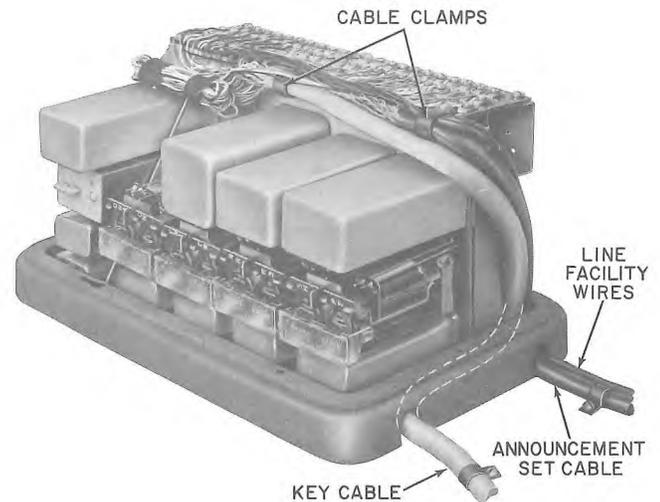

Fig. 1—Arrangement of Cable in 53A Control Unit
2.04 Inside wiring cables and wire should be formed as shown in Fig. 1.
- (2) Feed key cable into entrance hole of control unit and form along lower lip of mounting base (see Fig. 1).
- (3) Feed announcement set cable and line facility wires through entrance slot.
- (4) Now set control unit on the two fasteners previously placed.
- (5) Place other two fasteners. Make sure all four fasteners are tightened securely.
- (6) Form cables and wire to the terminal strip as shown in Fig. 1, placing key cable in top cable clamp and announcement set cable and line facility wires in bottom cable clamp.